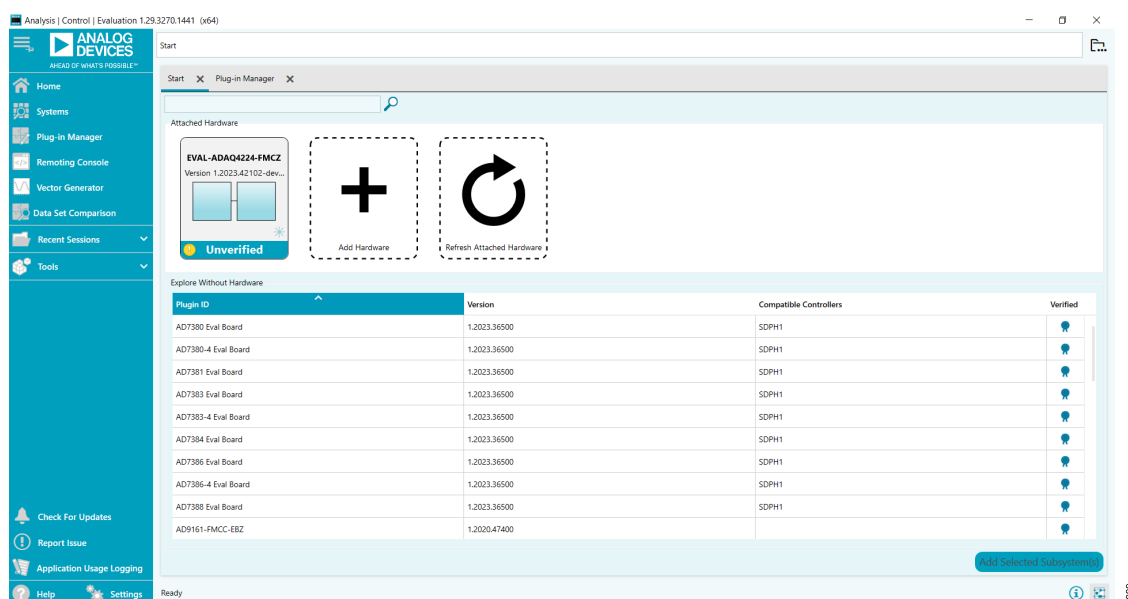

Figure 9. ACE Software Main Window
1. From the **Start** menu of the PC, click **All Programs > Analog Devices > ACE > ACE.exe** to open the ACE software main window, as shown in Figure 9.
3. Turn on SW8 on the Zedboard and wait for LD7 to start blinking. The **ADAQ4224 Eval board** icon appears in the **Attached Hardware** section on the ACE software main window, as shown in Figure 9.